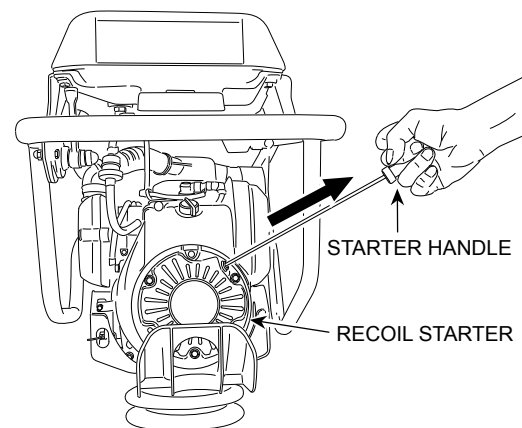

Figure 11. Recoil Starter
4. Grip the starter rope handle (Figure 11) and pull it until you feel a slight resistance. Then pull sharply and quickly. Return the handle to the starter case before releasing.